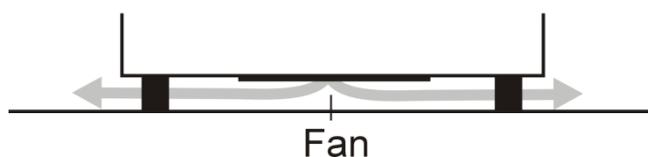

Fig. 2. Location of power supply fan DECADE Elite.
**Use the detector indoors only. Place the detector upright (on its instrument feet) on a stable, flat and smooth surface. Do not place the instrument in an area subject to excessive dust or shocks. Do not place it near a source of heat or in direct sun light, as this may influence the heating capabilities of the instrument. Make sure the detector is placed in such a way that the mains power connection can be reached easily to disconnect it from the mains power by removing the Mains power cable. Do not block the ventilation holes at the back of the instrument and do not block the fan located at the bottom of the detector (Fig. 2.). Blocking the fan will impair the cooling capability of the power supply.**